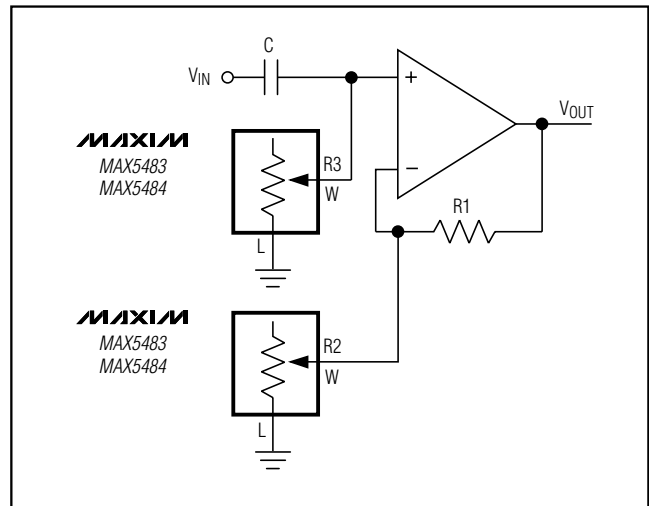

Figure 12. Programmable Filter
Figure 12 shows the configuration for a 1st-order programmable filter using two variable resistors. Adjust R2 for the gain and adjust R3 for the cutoff frequency. Use the following equations to estimate the gain (G) and the 3dB cutoff frequency (fc):